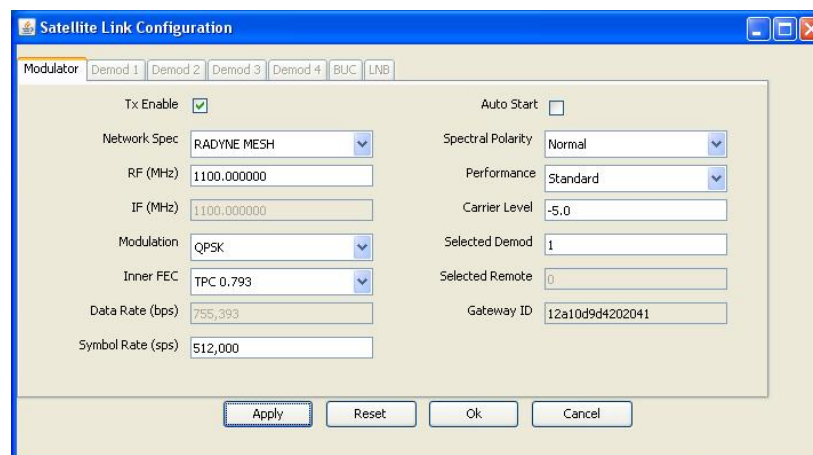

Figure 7.4.1.1 Modulator Tab Edit Mode
- **Auto Start:** The Auto Start function allows a share group to automatically recover from a complete outage. It is primarily intended for use in unattended networks. The Auto Start function can be enabled by placing a Check in the Auto Start check box on the Modulator tab in the Satellite Link Configuration screen (Figure 7.4.1.1).